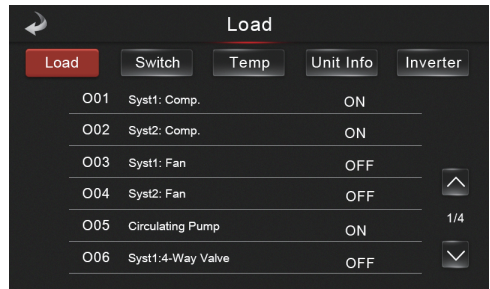

Fig.13-2 Unit Status interface
In the Status interface, press Unit Status button ④③ to inquire the unit status parameter, press **Load**, **Switch**, **Temp**, **Unit Info** OR **Inverter** to inquire the relevant parameters (Fig.13-2).